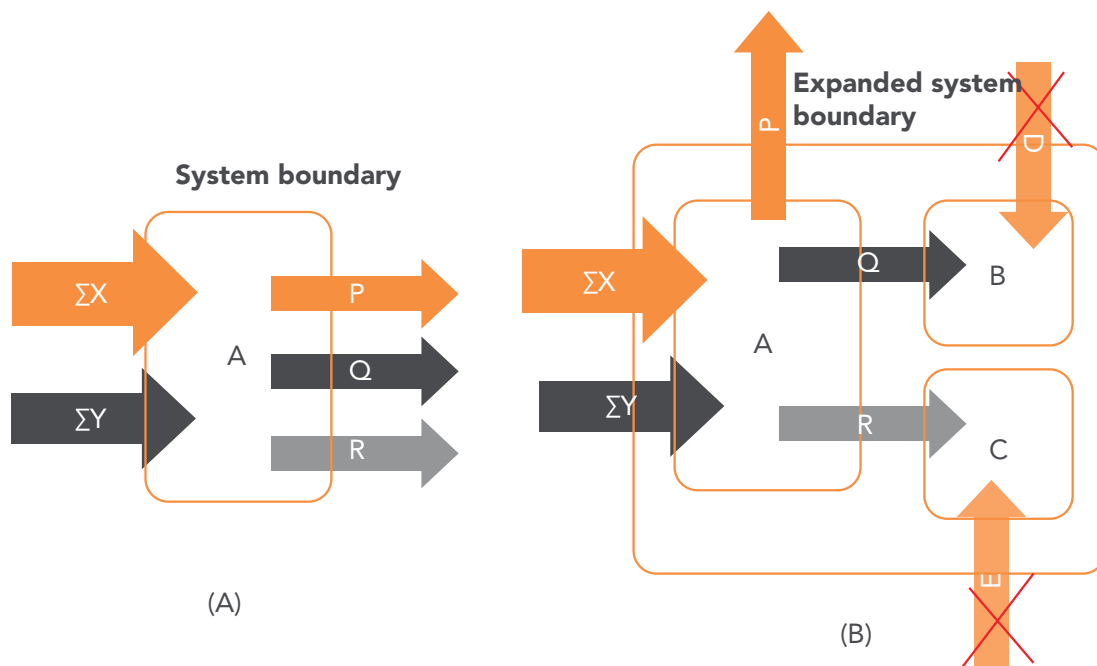

Figure 9.1: Products and byproducts from a process and system expansion
I was thinking of a suitable analogy but then decided to come to brass tacks directly. Let us say that you decide to manufacture a product P sensing a good demand for it in your country. You find out that you would be needing ΣX of materials and ΣY of energy to produce a ton of P. Let us say that the carbon footprint associated with the upstream processes – production and transport of raw materials and fuel elements and the generation and transmission of electricity – and the emissions from the production process of P per se, is C kg-CO₂-eq, for 1 ton of P. You also realise that alongwith P, you get two by-products Q and R (a few kilograms of each) in the process. (Figure 9.1 (A))
Consider the possibility of Q replacing D in performing some end-use function; R replaces E likewise. So, Q becomes the reason behind D not being needed, and R becomes the reason behind E not being required. And P becomes the reason behind the existence of Q and R . So P indirectly becomes the reason behind D and E not being required. So, if you have decided to penalise P by assigning all of C to it, it is just fair to also give it credit for being the cause behind the existence of Q and R and thereby the avoidance of production of D and E . If D and E had been produced, and if they would then have had carbon footprints equal to C_D and C_E respectively, P can be credited with truncating the ‘expanded system’s’ carbon footprint by an amount equal to $C_D + C_E$. The expanded system here includes the sub-systems in which Q replaces D and R replaces E (Figure 9.1 (B)).